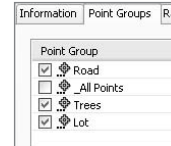

Figure 5.24
- Switch to the Point Groups tab. Check the boxes next to the Road, Trees, and Lot point groups, as shown in Figure 5.24.